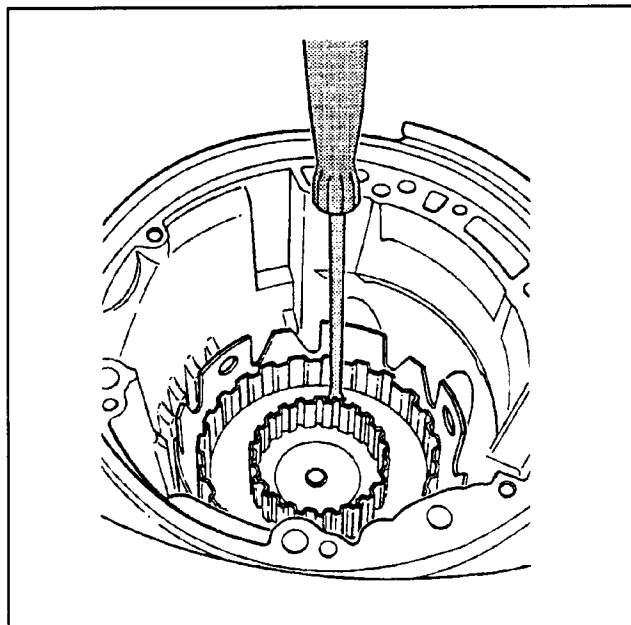

Figure 62
13. Engage the parking gear. Using a screwdriver insert the blade end into one of the holes in the large drive shaft (See Figure 62) and then remove the 13mm bolt from the output shaft.